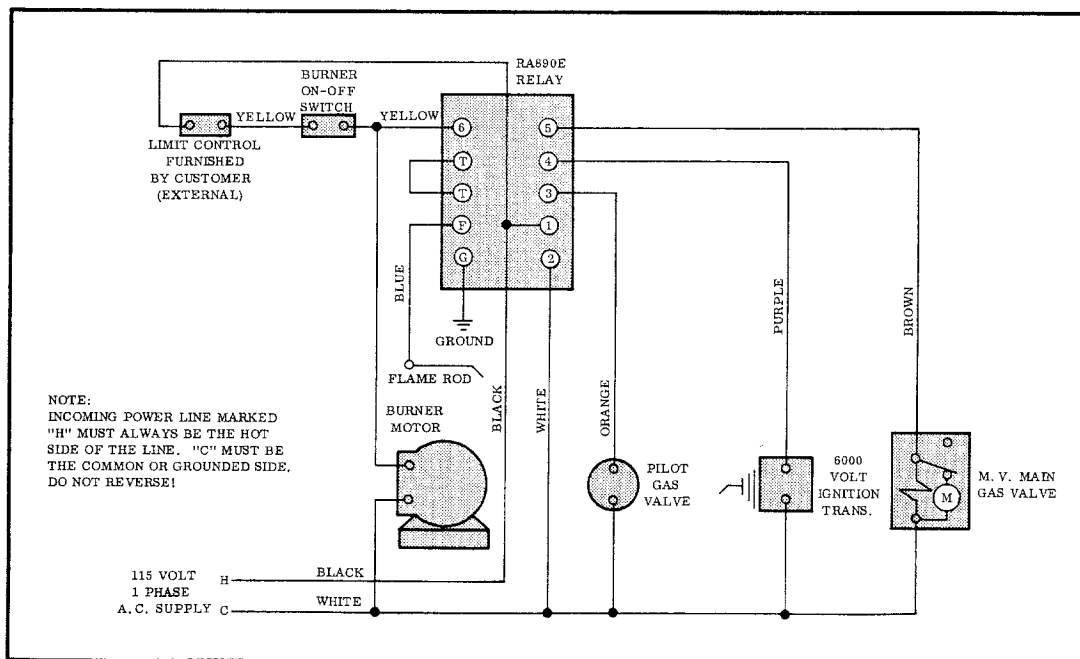

FIGURE 1
- 2.2 For the Series 200 GP Burner (ON-OFF operation), refer to the wiring diagram in Figure 1.